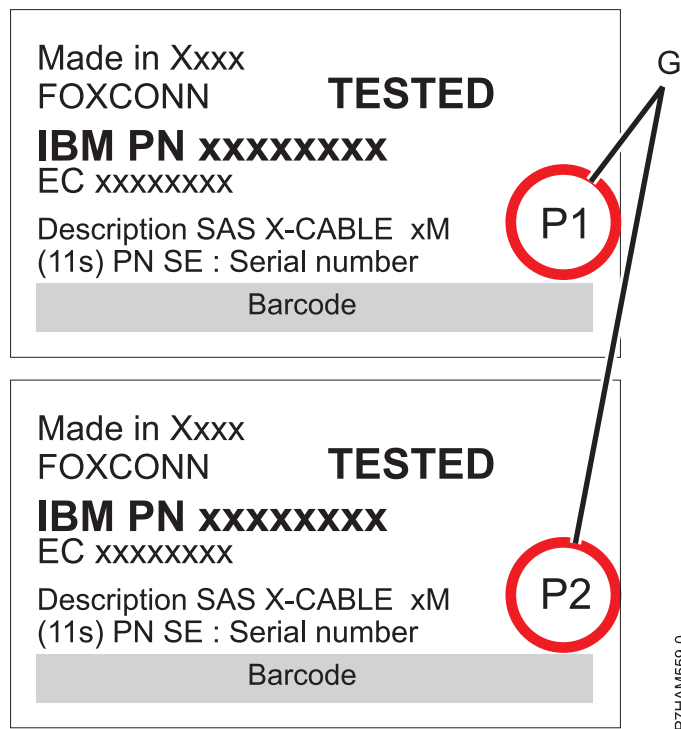

Figure 37. Labels for SAS adapter cables showing P1 and P2 identifiers
- The cable that plugs into independent SAS adapter 1 (C) contains a label with the P1 identifier (G), as shown in Figure 37 on page 33. This adapter does not have access to any other independent adapter and has access only to drive bays D1 - D6.
- The cable that plugs into independent SAS adapter 2 (D) contains a label with the P2 identifier (G), as shown in Figure 37 on page 33. This adapter does not have access to any other independent adapter and has access only to drive bays D7 - D12.
- The cable that plugs into independent SAS adapter 3 (E) contains a label with the P1 identifier (G), as shown in Figure 37 on page 33. This adapter does not have access to any other independent adapter and has access only to drive bays D13 - D18.
- The cable that plugs into independent SAS adapter 4 (F) contains a label with the P2 identifier (G), as shown in Figure 37 on page 33. This adapter does not have access to any other independent adapter and has access only to drive bays D19 - D24.